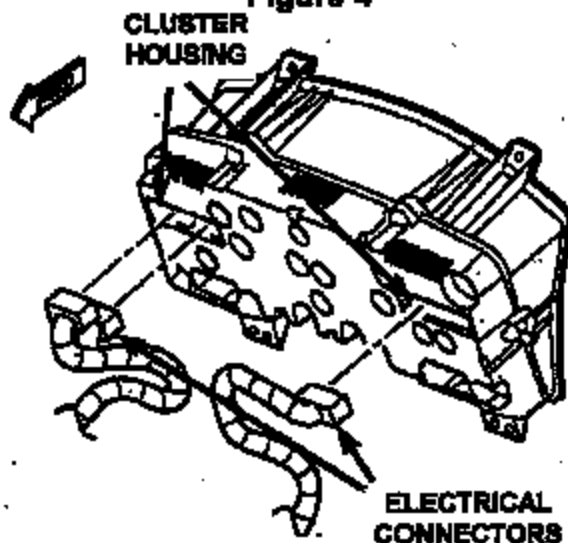

Figure 5
11. Pull the instrument cluster rearward just far enough to access and disconnect the electrical connectors on the back of the cluster housing (Figure 5).
23. Position the instrument cluster so you can access and connect the electrical connectors on the back of the cluster housing (Figure 5).